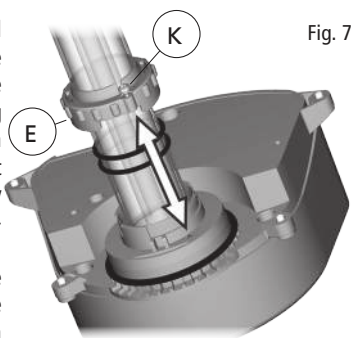
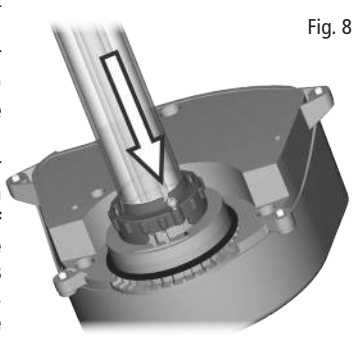

Fig. 7
Fig. 8
5. At this stage it is possible to clean the quartz sleeve (C), if required. **To clean the quartz sleeve, use a damp soft cloth to wipe away limescale and debris. In case of stubborn dirt, some vinegar may be used. Do not use detergents or other chemical cleaners. If it is not necessary to change the UV-C lamp, go straight to point #10.**
6. To access the UV-C lamp (B), remove the Quartz Sleeve (C) by first unscrewing, about 3 turns, the security screw (K) of the Retaining Flange (E) that fasten it to the UV-C head. Afterwards turn the Retaining Flange approximately 30 degrees counterclockwise until the screw is aligned with the arrow present in the UV-C head and pull to disengage it from its place. Important: the Retaining Flange is equipped with one anti-loss safety screw. There is no need to remove the screw completely. Just unscrew the screw until the Retaining Flange is free to be turned and disengaged from its position.
8. Once the Quartz Sleeve is removed, pull out the UV-C lamp (B) away from the lamp holder (if it is not the first start-up) and replace it with a new one. **WARNING - DO NOT ATTEMPT TO VIEW THE LAMP WHEN LIT!** Direct exposure to ultraviolet light can damage eyes and skin. Do not test the UV-C lamp unless the filter is fully assembled and closed. **IMPORTANT** – Use original Laguna spare parts only. Refer to the Spare Parts List for correct part number identification.
9. Place the Quartz Sleeve (C) and the two O-rings (D) back in their original position. It is recommended to lubricate the O-Rings with an appropriate lubricant. **IMPORTANT** – The Lamp Damper (Y) inside the quartz sleeve must be between the lamp and the bottom of the quartz sleeve. Do not remove it. **IMPORTANT** – **The two O-rings (D) of the quartz sleeve (C) must be replaced every time the unit is opened.**
10. Place the retaining flange (E) in its original position. Simply align the screw with the arrow and press the flange towards the UV-C head, then turn the Retaining Flange approx 30 degrees clockwise in the direction of the security screw (K). At this time fasten the Retaining Flange by screwing the security screw (K) (Fig. 7 - Fig. 8 - Fig. 9).
11. Check to ensure that the Quartz Sleeve (C) is not damaged. Check that all the components are present and have been reassembled properly. If in doubt, consult your Laguna dealer.
12. Put the UV-C head (A) back on the filter lid (G), ensuring that the inner O-ring (F) is correctly located before securing the UV-C head with the screws (J).
13. Secure the UV-C head (A) to the filter lid by refitting the 4 anti-loss screws on the UV-C Head (J). **WARNING – Risk of Electric Shock: Before powering the lamp, make sure that ALL O-Rings are back in their original position, ALL screws are tightened and there has not been any damage to the unit. Before connecting the unit to the power supply, perform the Filter Wet Test (see below).**